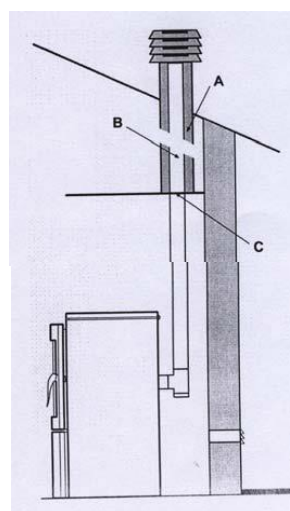

Figure 2
- Avoid contact with material that burns easily (such as wooden beams), and in all cases they should be isolated with anti-fire material (see Figure 2).